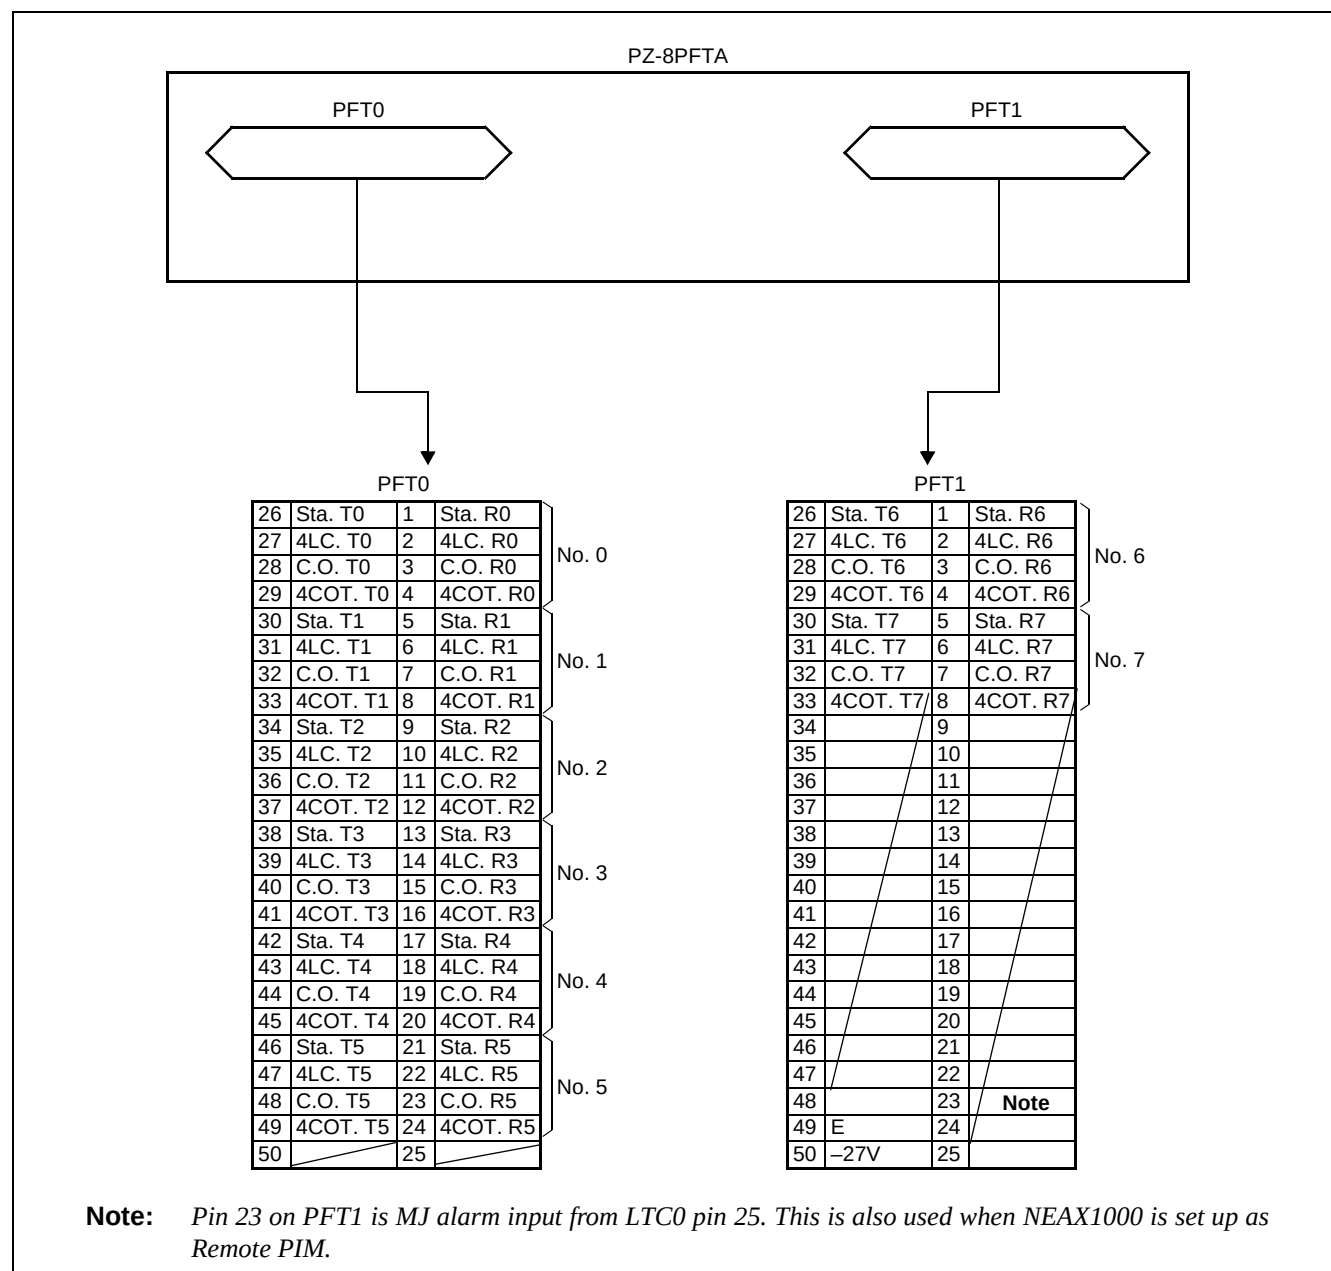

Figure 007-35 PFT Connector Pin Assignment
- Figure 007-35 shows the PFT connector pin assignment for each PFT circuit number (No. 0 - No. 7).